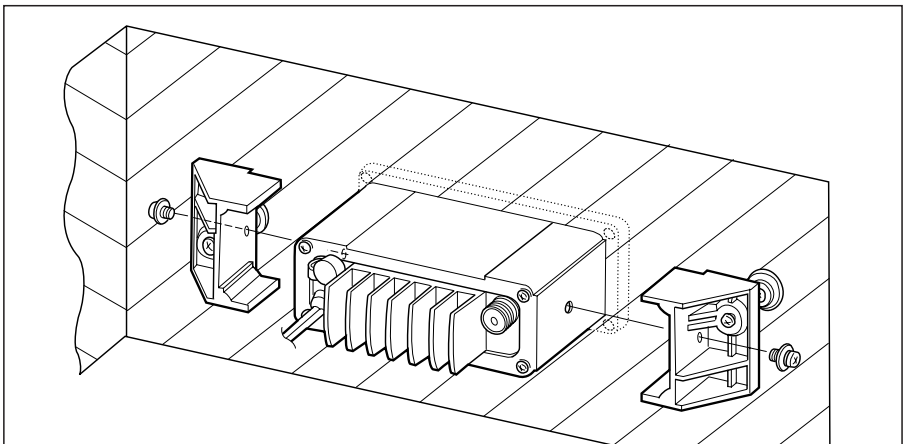

Figure 5. CMB16 Mounting Bracket
Refer to Figure 5 for the following procedure.
3. Fasten the brackets to the sides of the transceiver with the lock washer nut combination, so the mounting screw base faces the mounting surface (see Figure 5).